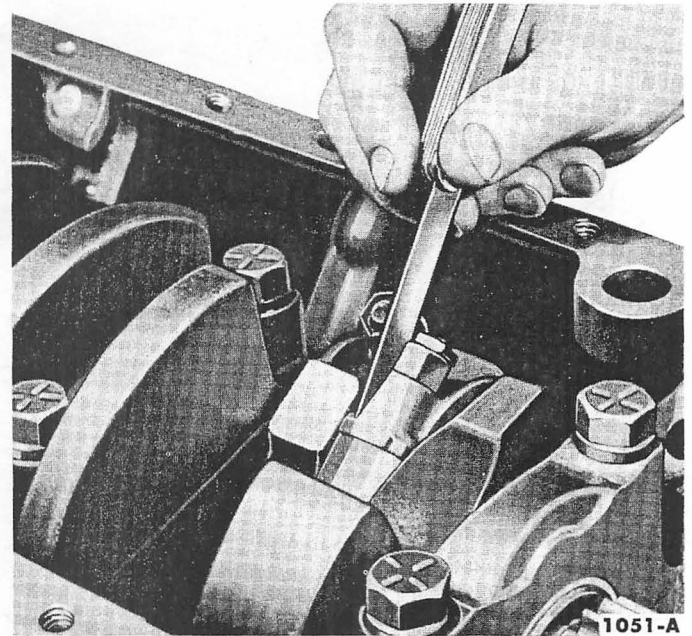

Fig. 47—Connecting Rod Side Clearance
5. After all the piston and rod assemblies have been installed, check the side clearance between the connecting rods on each crankpin (Fig. 47).